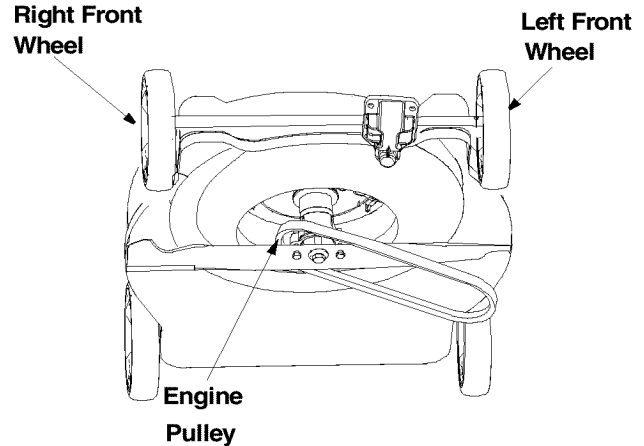

Figure 14
- Slide the belt off the engine pulley and around the blade. See Figure 14 .